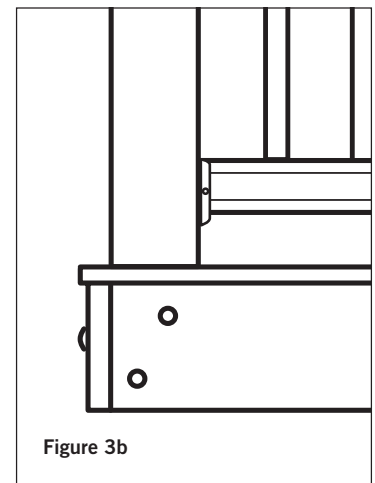

Figure 3b
Step 3 Position, plumb with a level, and clamp the rail post on the interior face of the joist. Plumb again. The 4x4 railing post should be bolted to the inside of the joists using two 1/2"x6" galvanized carriage bolts. Corner posts use a third carriage bolt inserted through the adjacent joist (**Figure 3b**).
Step 2 Position, plumb with a level, and clamp the rail post on the interior face of the stair stringer. Plumb again. The 4x4 railing post should be bolted to the inside of the stair stringer using two 1/2" x 6" galvanized carriage bolts. Corner posts use a third carriage bolt inserted through the adjacent joist (refer to Figure 3b). Ground level posts should be set in concrete.